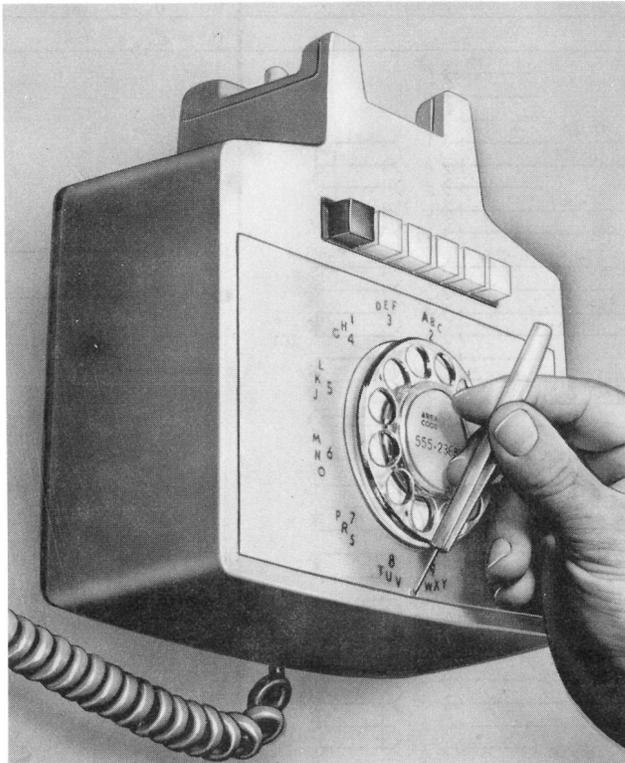

Fig. 5—Installing 853A Faceplate
The 853AM and 2853AM telephone sets are factory wired for two intercom lines only; for the third intercom line refer to (Fig. 5 and 6).
5.05 When necessary to remove housing, the faceplate must first be removed by using a KS-21107 type releaser (Fig. 5) or equivalent in catch in botton of faceplate. Housing can then be removed by loosening two captive screws under faceplate area.